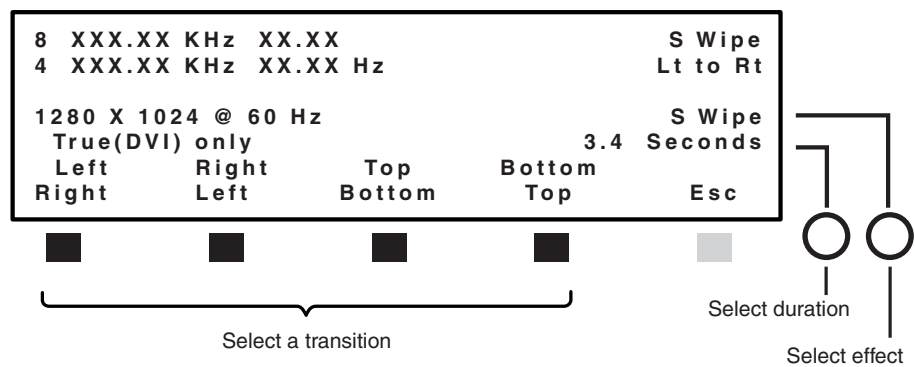

Figure 3-39 — Setting up the S wipe effect
- S wipe (soft standard wipe, figure 3-39)